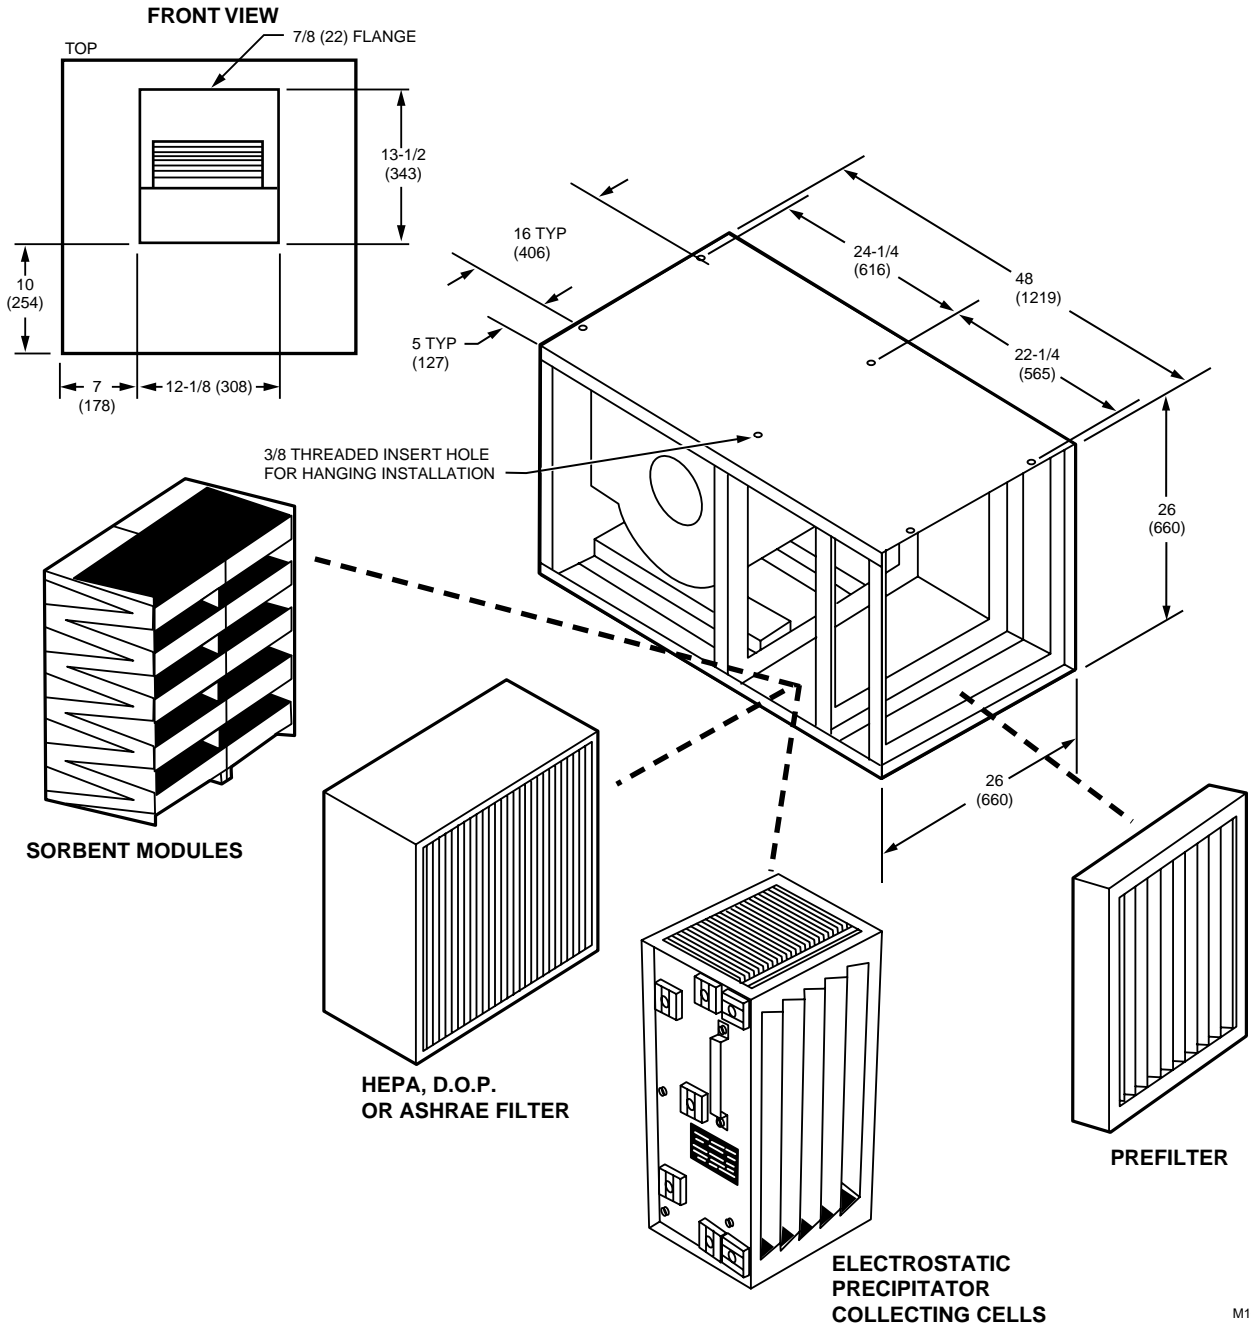

Fig. 1. Approximate dimensions of two stage filtering model in in. (mm).
See Fig. 1 and 2 for dimensions.
*All suspension points (either six or eight depending on the model) must be used for proper and safe installation. See Fig. 1 and 2 for dimensions between the suspension points.*